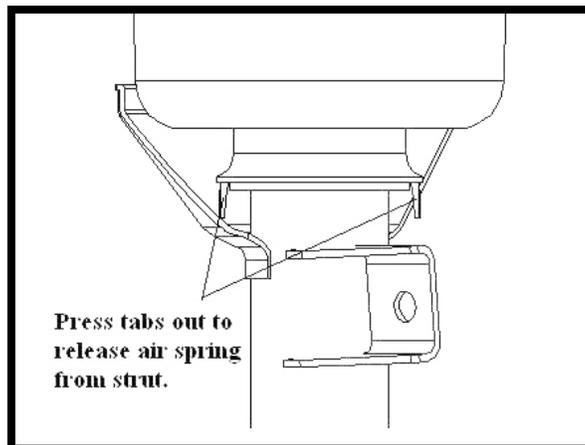

FIGURE 20-1
6. PRESS OUT ON THE TWO PLASTIC RETAINING CLIPS. (FIGURE 20-1)